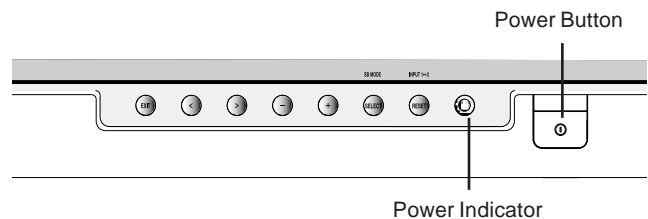

Figure D.1
7. Turn on the monitor (**Figure D.1**).